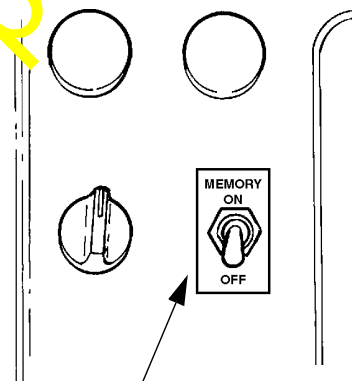

Figure 5
9. Clean area around switch. Install Memory on/off decal (figure 5).